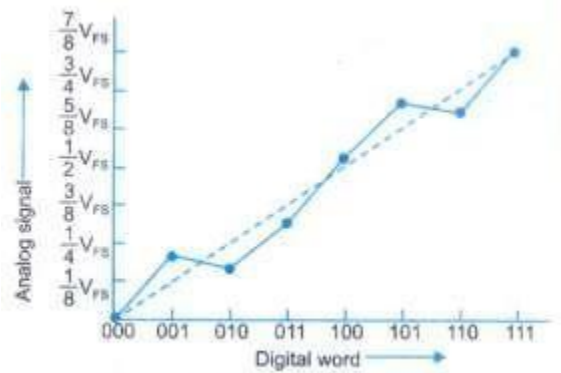

Fig. 10.18 A non-monotonic 3-bit DAC
**Monotonicity:** A monotonic DAC is the one whose analog output increases for an increase in digital input. Figure 10.18 represents the transfer curve for a non-monotonic DAC, since the output decreases when input code changes from 001 to 010. A monotonic characteristic is essential in control applications, otherwise oscillations can result. In successive approximation ADCs, a non-monotonic characteristic may lead to missing codes.